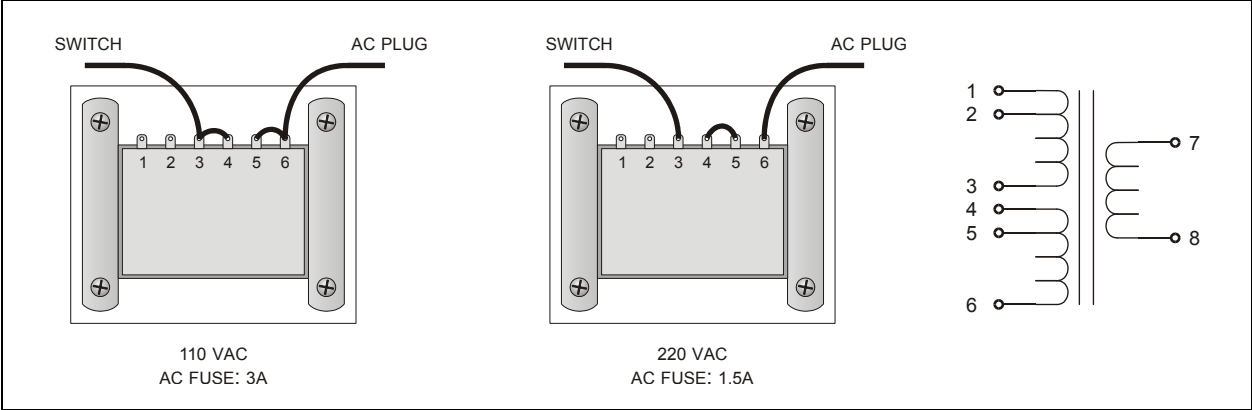

Figure 2-2 Power Transformer Connections
The PRC-BC4 can be configured for 110 or 220 VAC by opening the case and changing the connections on the power transformer. A label on the case indicates to what input voltage the transformer is set, however it is prudent to visually inspect the power transformer to verify what input voltage it is configured to accept (refer to Figure 2-2 on page 2-3).
2. Remove the jumper wires between terminal 3 and terminal 4, and the jumper between terminal 5 and terminal 6 (refer to Figure 2-2 on page 2-3).
1. Make sure the power transformer is configured correctly for the intended power source (refer to Figure 2-2 on page 2-3).